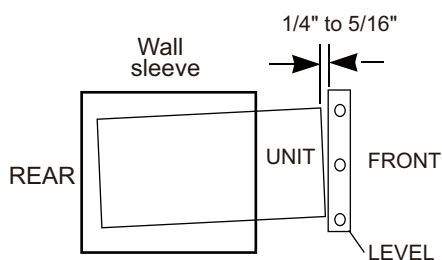

Fig.1
- When installation is complete, replacement unit **MUST** have a rearward slope as shown in Fig.1.